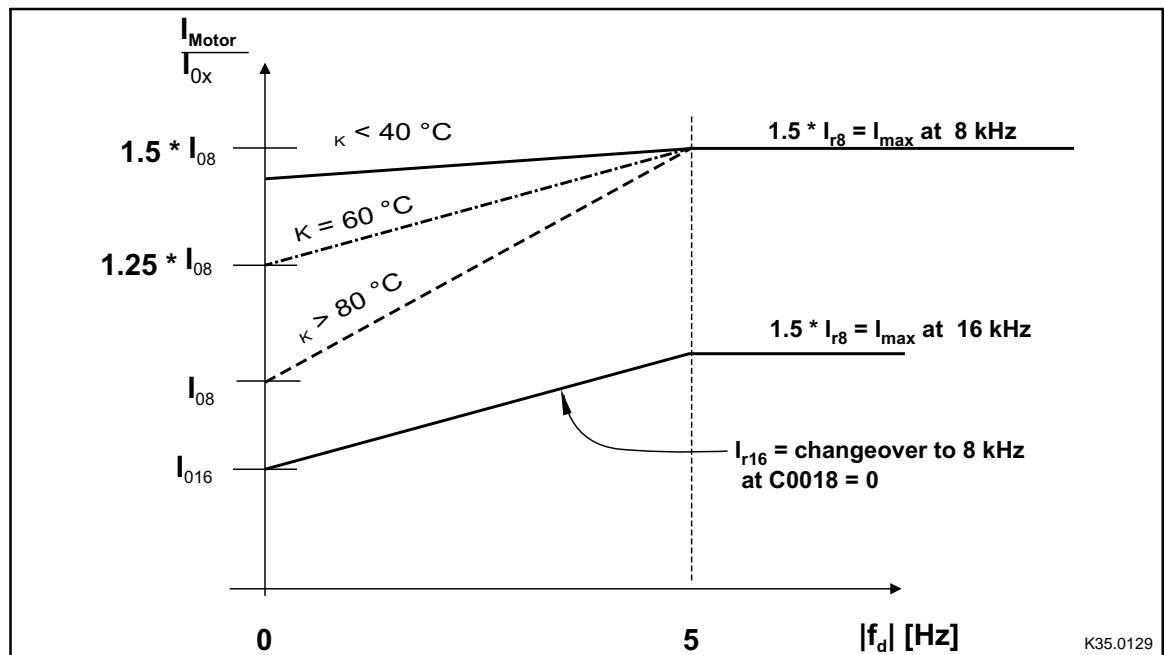

Fig. 6-2
- The current is derated, depending on the heat sink temperature (see Fig. 6-2).
- Below the threshold, the controller operates with 16 kHz (optimum noise). The function of the current derating follows the characteristic "Imax 16 kHz" (see Fig. 6-2).
- If a higher torque is required from the machine for example for acceleration, the controller automatically switches to 8 kHz (optimum power). The function of the current derating follows the characteristic "Imax 8 kHz" (see Fig. 6-2).